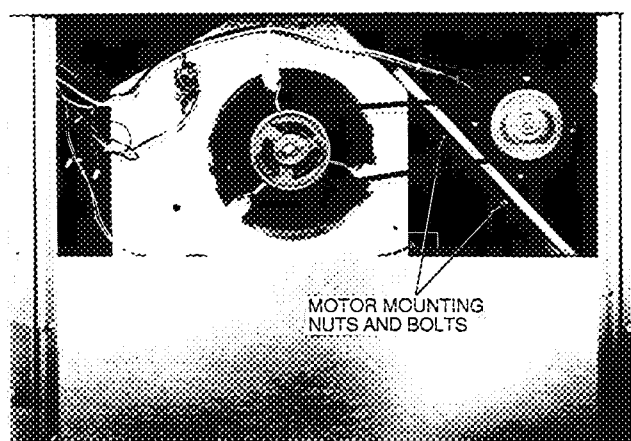

Fig. 26 — Belt Drive Motor Mounting
2. Loosen belt by loosening fan motor mounting nuts. See Fig. 26.